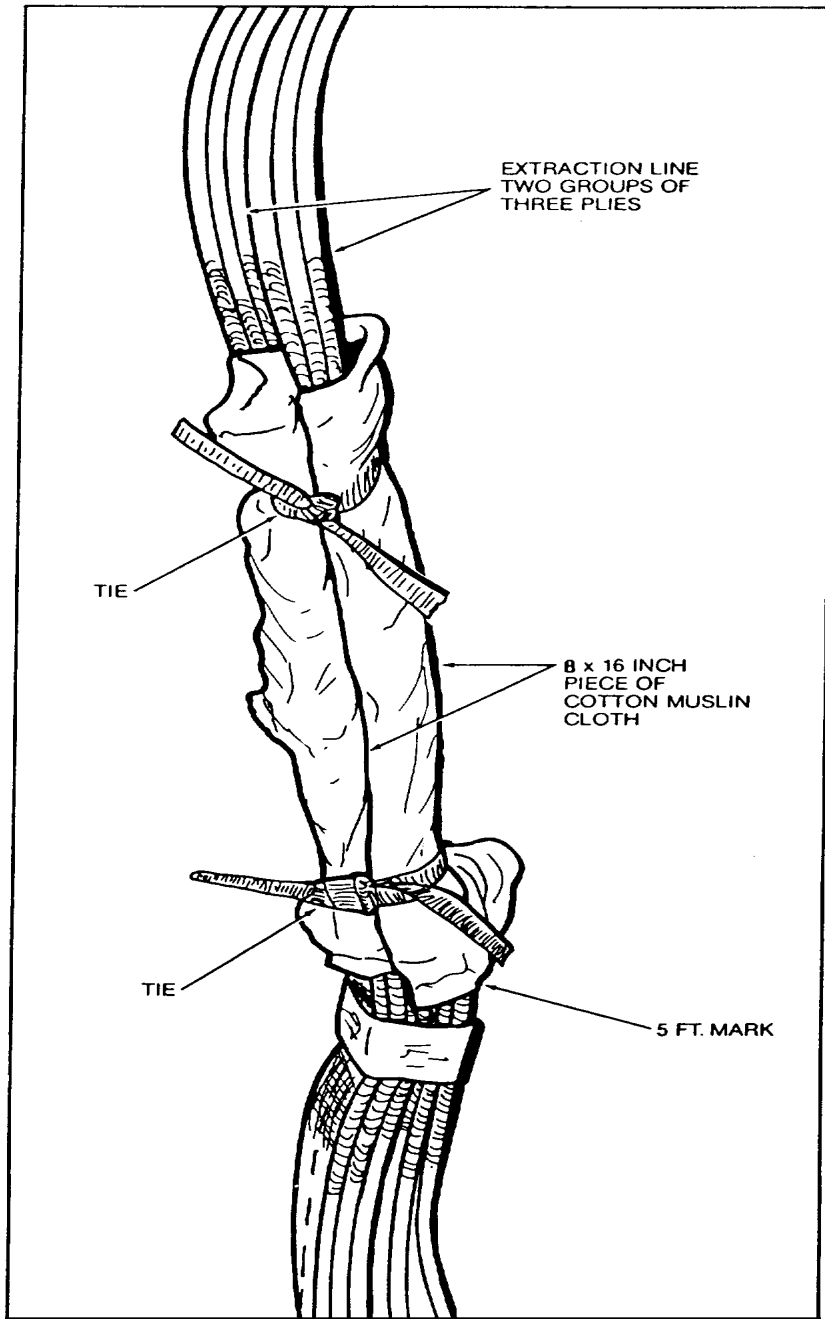

Figure 2. Extraction Line Separated into Two Groups of Three Plies and Wrapped with Cloth.
- a. Separate extraction line plies into two groups of three each and wrap each group with piece of 8 x 16 inch cotton muslin cloth a point immediately above 5-foot mark on the extraction line (figure 2).